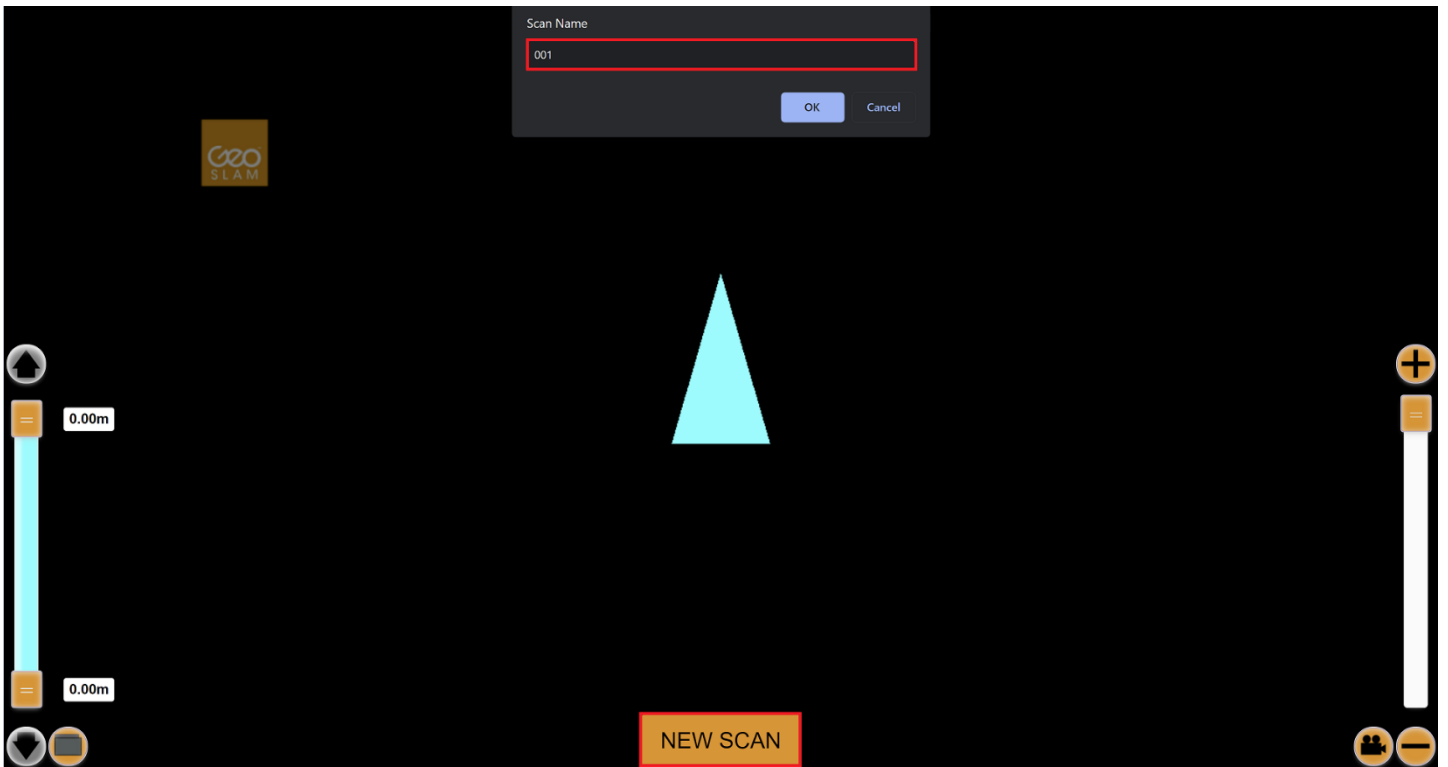

Figure 8-3
Step 5: To start a scan, position the scan head on its back or standing upright using the reference base such that the scan head is free to rotate when the scan is initiated. Click the START button and enter a scan name when prompted (Figure 8-3).